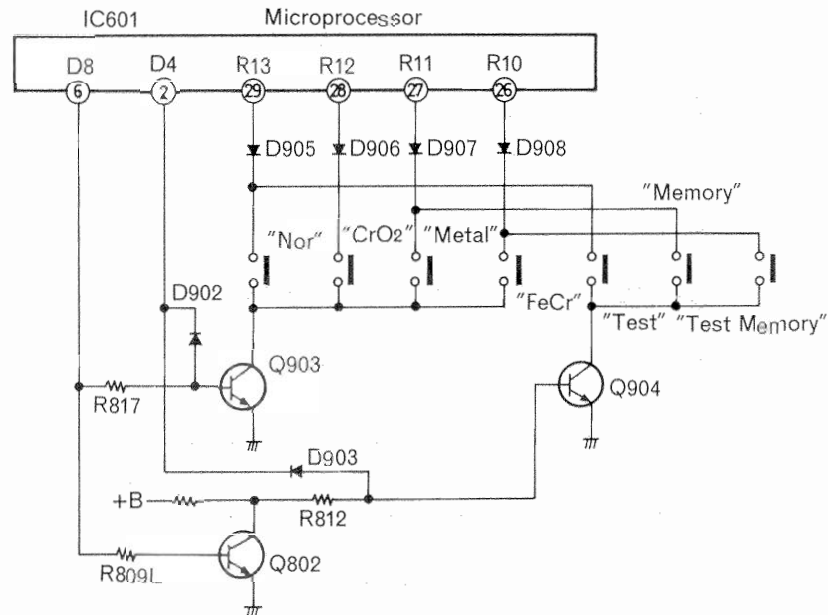

Fig. 13
The relationship between the 7 types of key input and 4-bit key input from the microprocessor are shown in Table 4. They are obtained by synchronizing the L/R selection signal output from D8 of the microprocessor. That is, L/R selection signal is inverted every 20 ms, and Q903, shown in Fig.13, is activated at Hi potential, so the key input shown in Table 4 (Item (1) — (4) ) is detected. At Lo potential, Q904 is activated, so the key input shown in Table 4 (Item (5) — (7) ) is detected. Q903 and Q904 operate in opposite ways so key input does not overlap. When there are 2 or more key inputs to the 4-bit input, operations are ignored.
Key input terminals R10—R13 are concurrently used as REC equalizer/bias & A/D control data output terminals; key input during output of data is inhibited. Output terminal ② of IC601 shown in Fig. 13 is set to Lo potential during output of data from terminals R10 - R13, Q903 and Q904 are cut off and key input is inhibited.